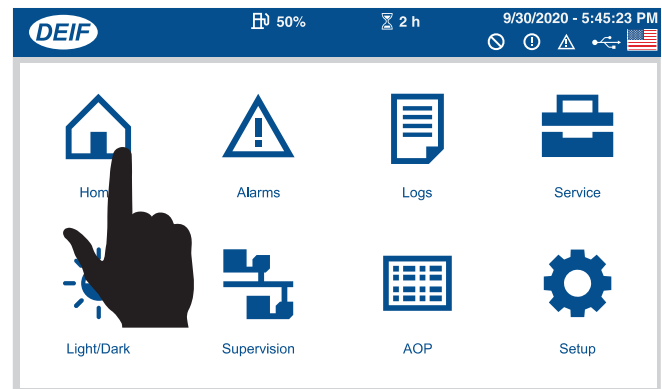

Figure 52. Main Menu Screen (Home Button)
7. Verify that the **Main Menu screen** (Figure 52) is displayed, then press the **Home button**.